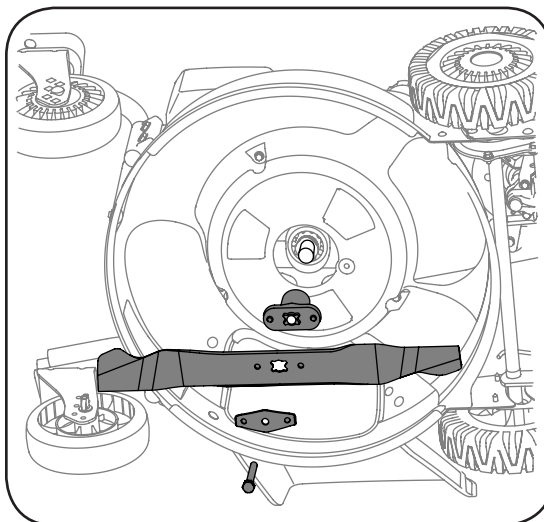

Figure 5-3: To access blade, remove the bolt, support, blade, and adapter.
2. Remove bolt, bell blade support, blade, and blade adapter from the engine crankshaft. See Figure 5-3.